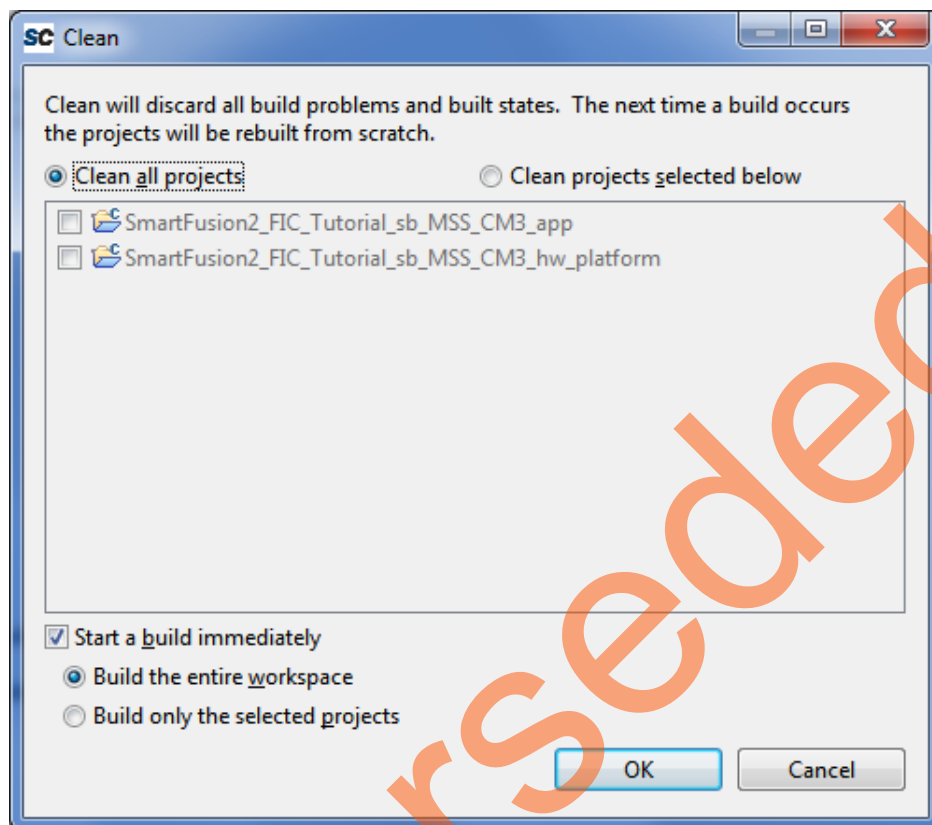

Figure 48 • Clean and Build window
12. Select **Project > Clean** to perform a clean build. Accept the default settings in the **clean** dialog box and click **OK**, as shown in Figure 48.